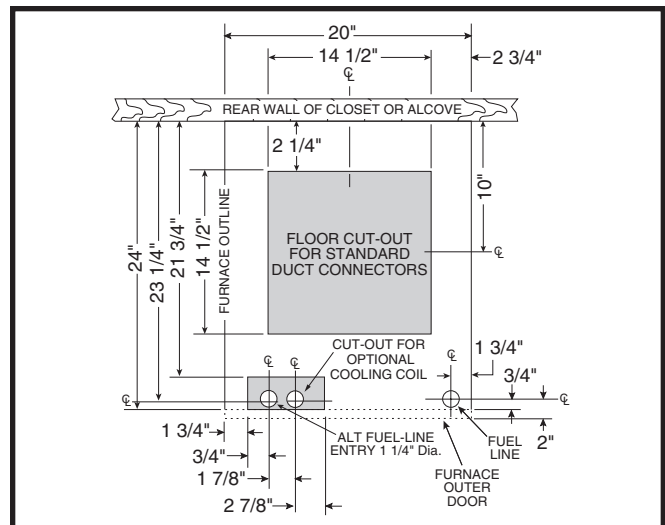
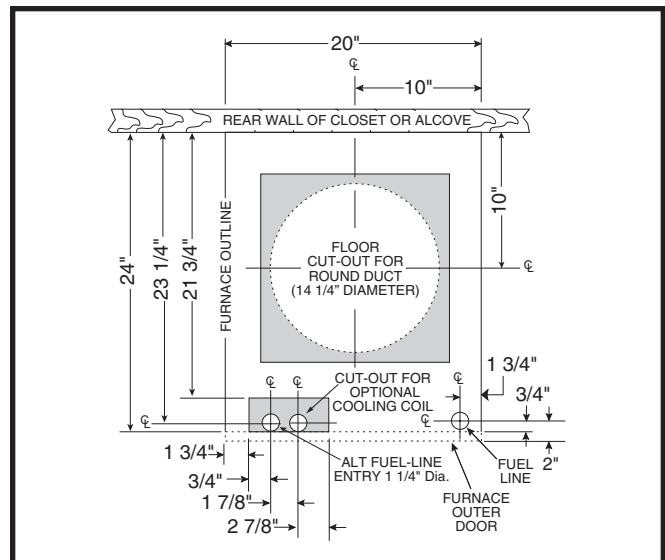

Figure 7. Cut-Out Dimensions for Standard Duct Connectors
Figure 8. Cut-Out Dimensions for Round Duct Connectors
Floor cut-outs and fuel line holes must be carefully located to avoid misalignment of the furnace, and vent piping. To locate standard ducts see Figure 7. For round ducts, see Figure 8.
2. Using the centerline as a starting point, draw the rest of the duct cut-out to the dimensions shown in Figure 7 or Figure 8.
6. Measure and drill gas hole and cut out for cooling coil (if applicable). See Figure 7 or Figure 8.